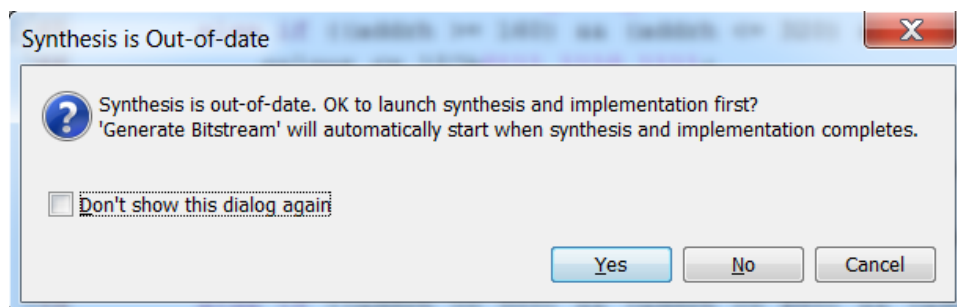
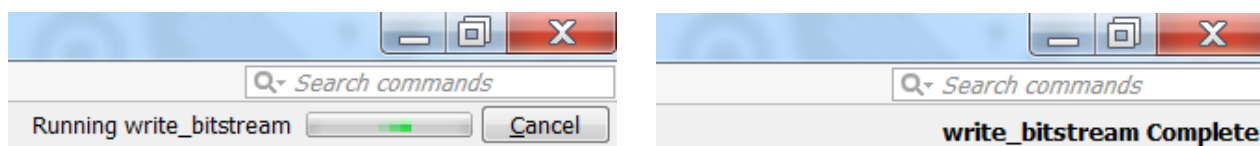
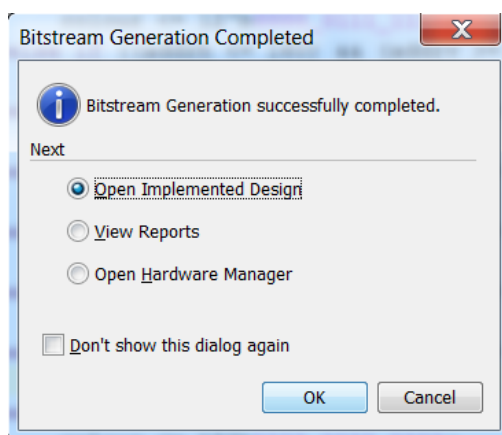

Figure 5
Figure 6
Figure 7
2. If the window in Figure 5 shows up select **Yes**. Wait for bitstream generation to be complete. You can monitor the progress by looking at the top-right corner of the Vivado window (see Figure 6). The window in Figure 7 may appear at the end of bitstream generation. If it does, simply click **Cancel**